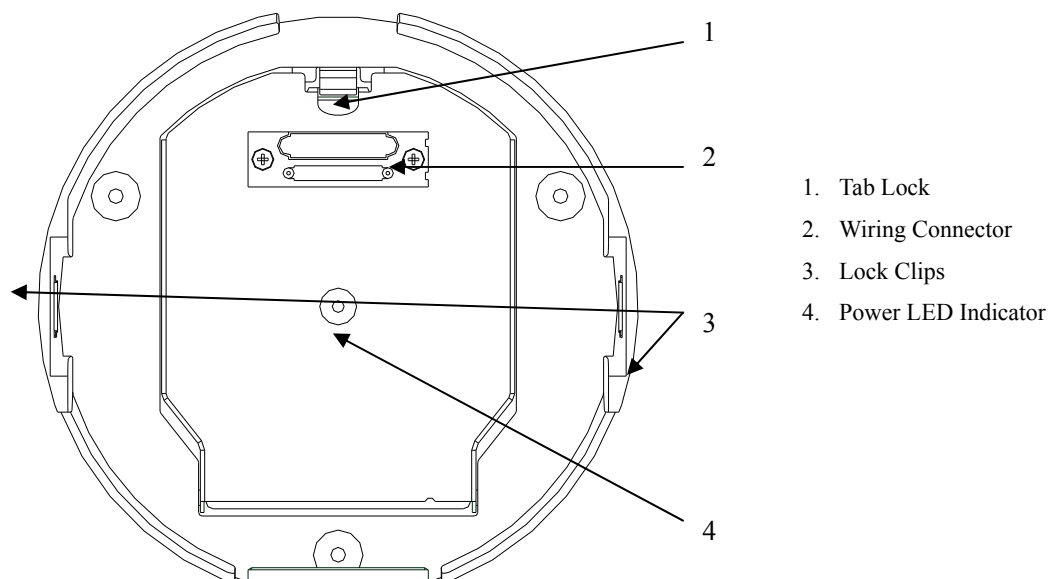
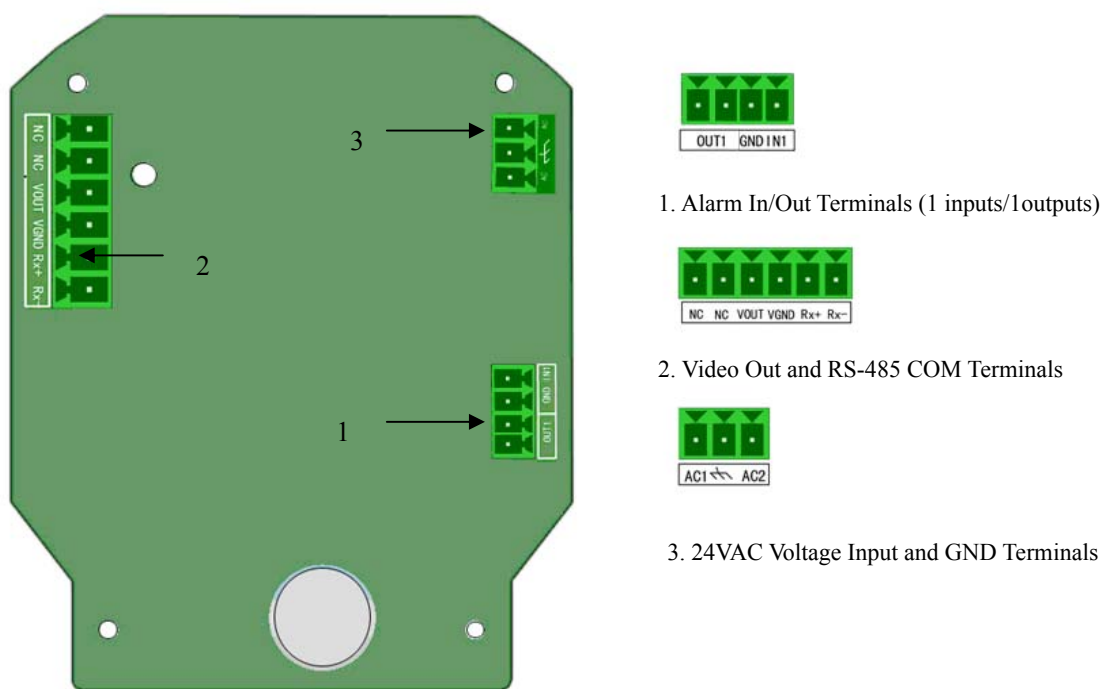
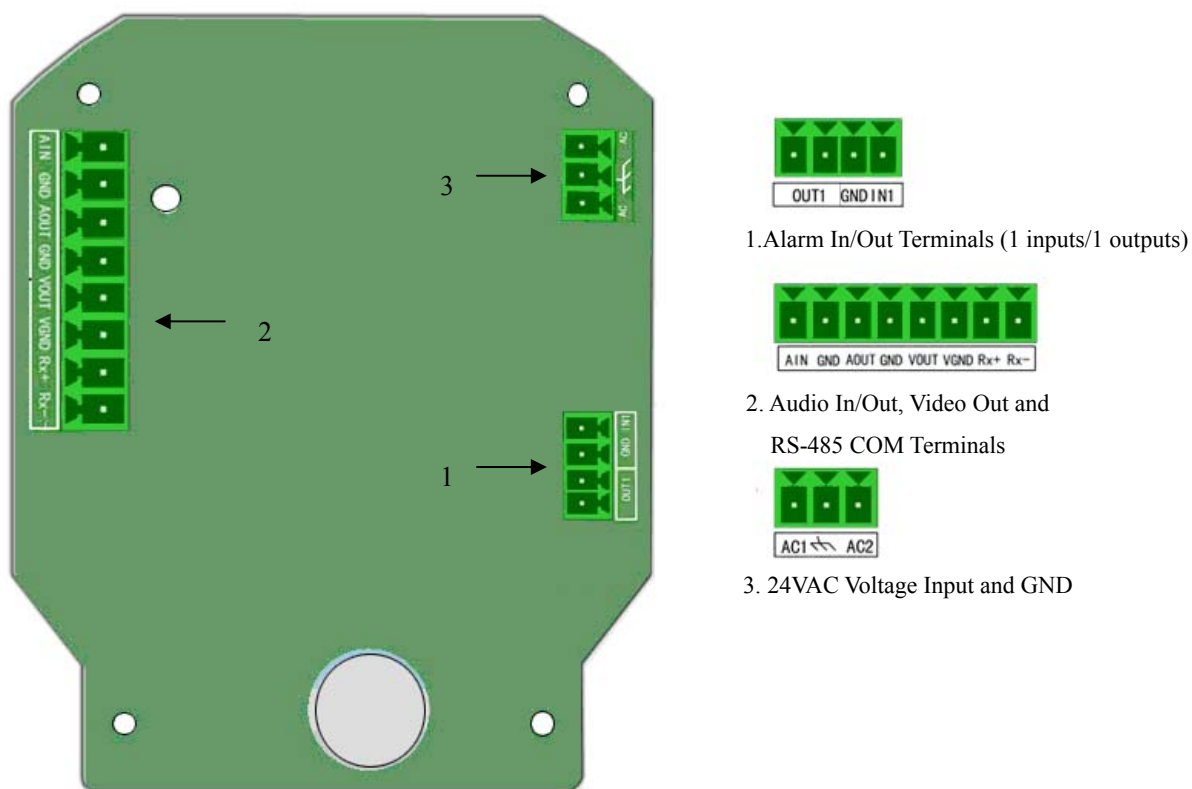

Figure 1.2.12 Back Box Interconnect Board
Figure 1.2.13 Back Box Circuit Board(Medium Speed Dome)
Figure 1.2.14 Back Box Circuit Board (Network Medium Speed Dome and Network High-definition Speed Dome)
4. Push the tab locks on the back box interconnect board and lift the hinged door to the circuit board, as shown in Figure 1.2.12. Unplug the video cable, power cord and other cables terminals to avoid cables twisting during the back box installation. Refer to Figure 1.2.13 (medium speed dome) and Figure 1.2.14(network medium speed dome) for the wiring terminals.